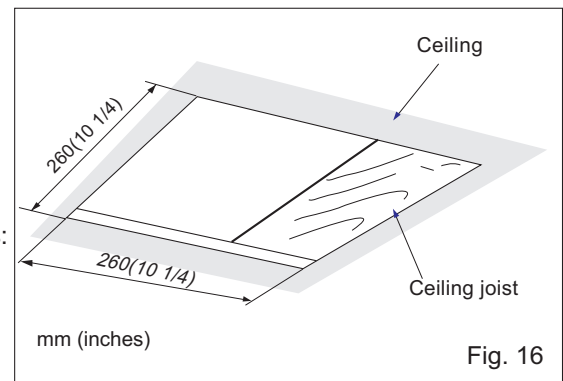

Fig. 16
1. Ensure that the square hole size in ceiling should be sufficient according to Fig.16